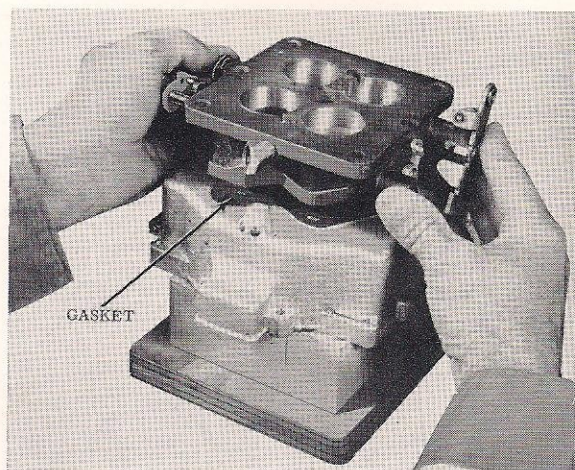

Figure 7-18
11. Place the throttle body gasket in position on the float bowl, with the bowl inverted on a flat surface. (Figure 7-18.) Be certain that all gasket holes are properly aligned.